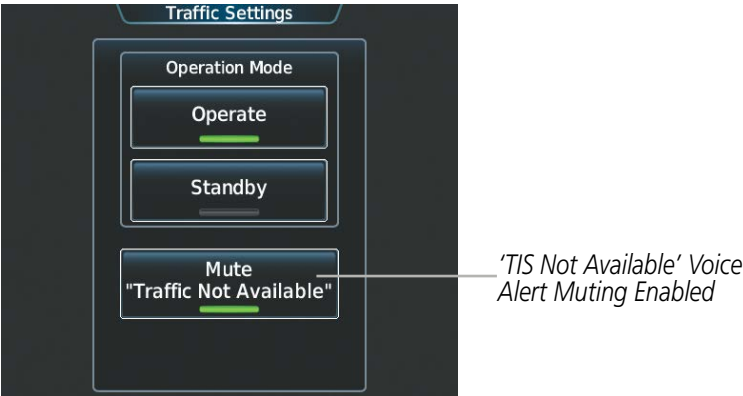

Figure 6-138 Traffic Settings Screen for TIS
- 2) Touch the **Mute “Traffic Not Available”** Button (Figure 6-138). ‘TNA MUTE ON’ appears in the upper right corner of the Traffic Map.